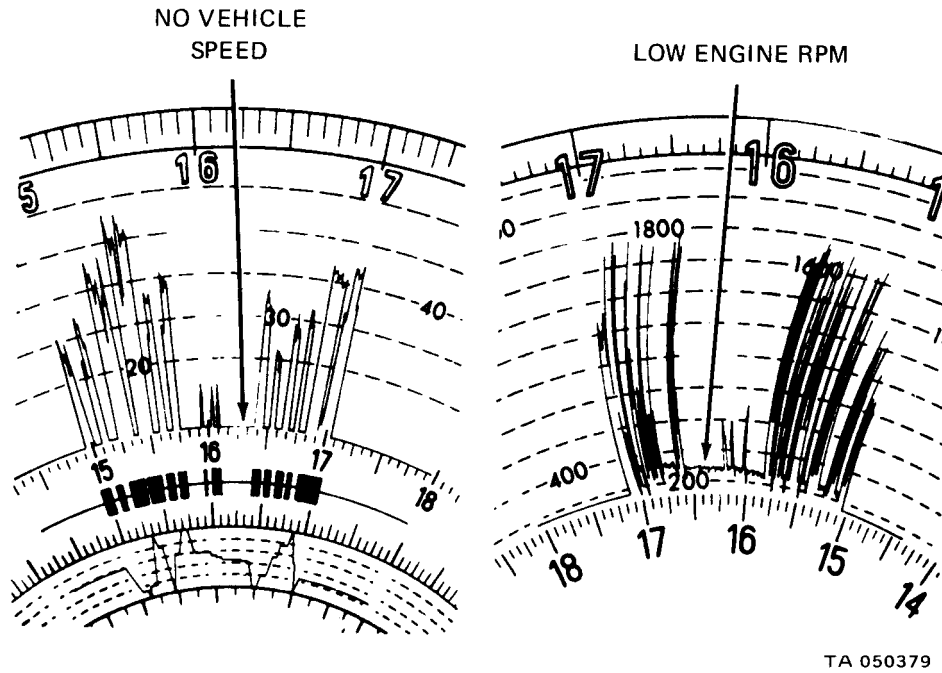

Figure 20-15. Excessive Engine Idling
(9) Excessive engine idling. The rpm field (Fig. 20-15) will clearly show if the engine has been idling for a period of several hours. Excessive engine idling will show as low engine rpm for periods of several minutes or hours, while during the same time period, the speed field will show the truck did not move.